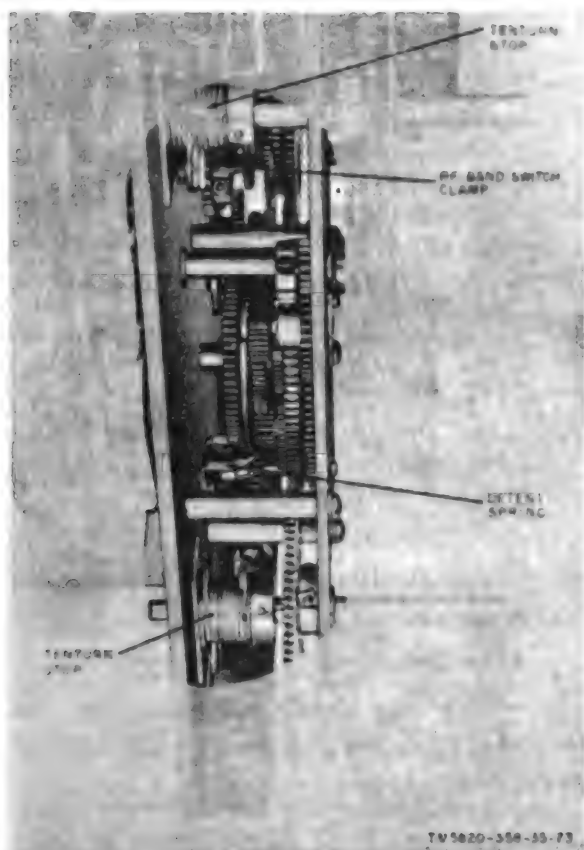

Figure 69. Location of rf band switch shaft clamp, detent spring, and ten-turn stops.
a. Ten-Turn Stops. Check the 10-turn stops (fig. 69) by rotating the MEGACYCLE CHANGE and KILOCYCLE CHANGE shafts fully counterclockwise. The first two digits on the frequency indicator should indicate halfway between 99 and 00 mc (off the detent position). The next three digits should indicate between -963 and -972 kc.
- (4) Connect the TS-352(*)/U between pin 6 of XV207 and pin D of J208. The indication should be approximately 56,000 ohms.
- (5) Turn the MEGACYCLE CHANGE control to 08. The TS-352(*)/U should indicate an infinite reading.
- (6) If the indications are *not* as in (4) and (5) above, continue with procedures (7), (8), and (9).
- (7) Disconnect the TS-352(*)/U and reinsert V207.
- (8) Remove the front panel (para 58) and the rf subchassis (para 59).
- (9) Loosen the rf band switch clamp (fig. 69). Turn the band switch shaft until the rotors are centered on the contacts which provide the indications required in procedures (4) and (5) above. Tighten the rf band switch clamp.